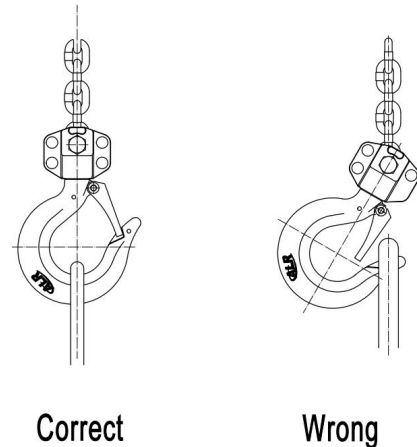

Figure 4
- Check that the chain is not twisted at the bottom hook. All welds should face the same direction (Figure 4).